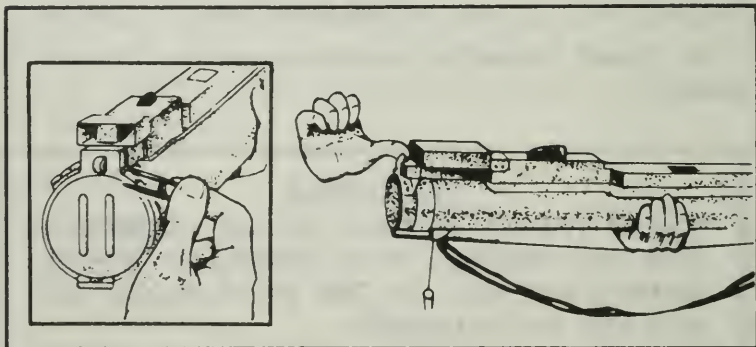

Figure 159. Removing the front cover and the sling assemble.
a. Remove the pull pin and rotate the rear cover downward (Figure 159), allowing the front cover and sling assembly to fall free. Do not discard the sling assembly until the rocket is fired.